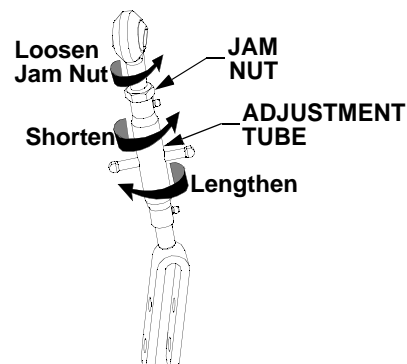

Figure 24
- Adjust the RH adjustable lift link to *level* the lower hitch links. Loosen the jam nut and turn the adjustment tube as shown in Figure 24 to shorten or lengthen the lift link. Tighten the jam nut against the adjustment tube after adjusting.